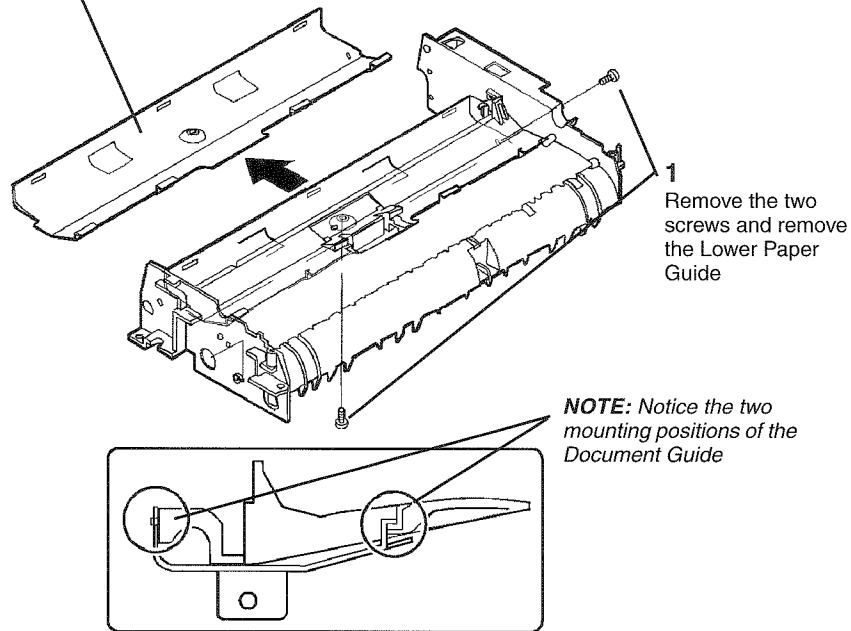

Figure 1 Removing the Document Guide
5. ( Figure 1): Remove the Lower Paper Guide.